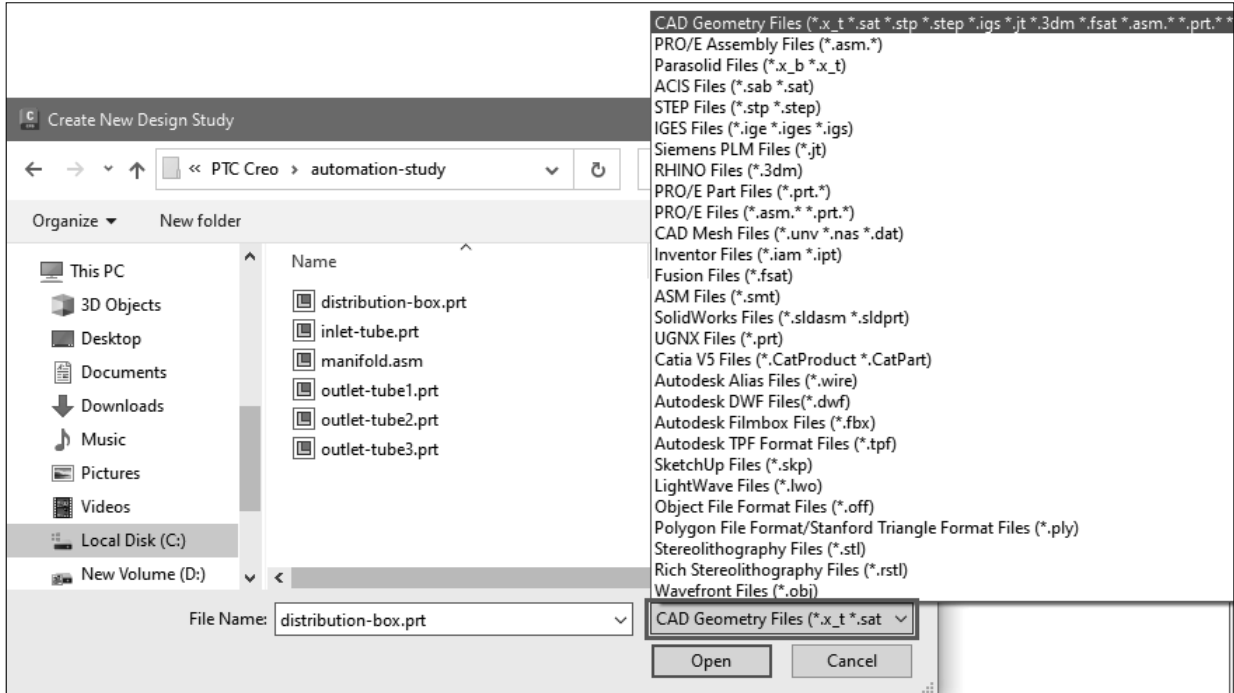

Figure-11. File Format Selection drop-down
- Click on the **File Format** selection drop-down and select desired format for file to be opened; refer to Figure-11.